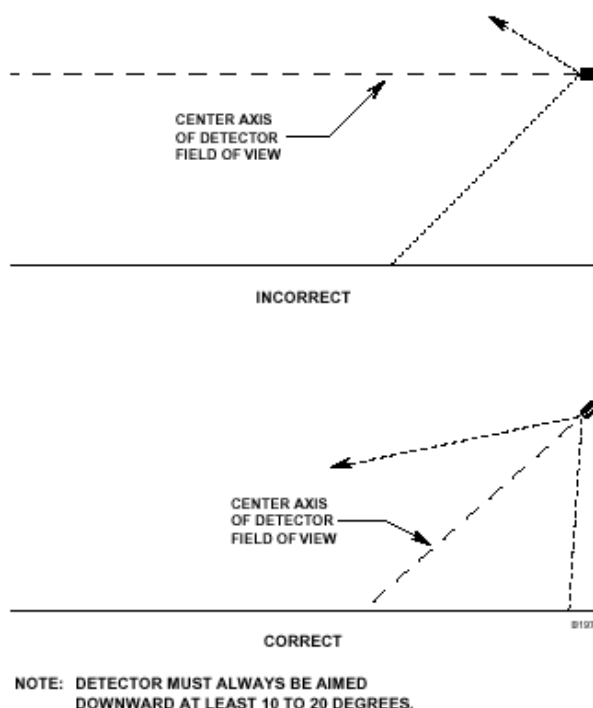

Figure 1—Detector Orientation Relative to Horizon
- The detector should be aimed downward at least 10 to 20 degrees to allow lens openings to drain. See Figure 1. **The detector should be positioned so that its field of view does not cover areas outside the hazardous area.** This will minimize the possibility of false alarms caused by activities outside the area requiring protection.
(See Figure 1 for correct detector orientation.)